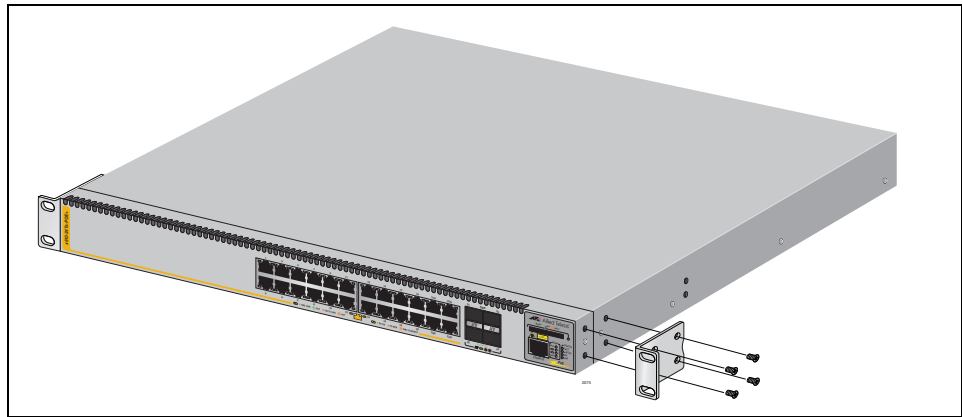

Figure 41. Attaching Rack-Mount Brackets
4. Attach a rack-mount bracket to one side of the switch using six of the screws that come with the switch and then install the second rack-mount bracket on the other side of the switch with the six remaining screws, as shown in Figure 41 on page 80.